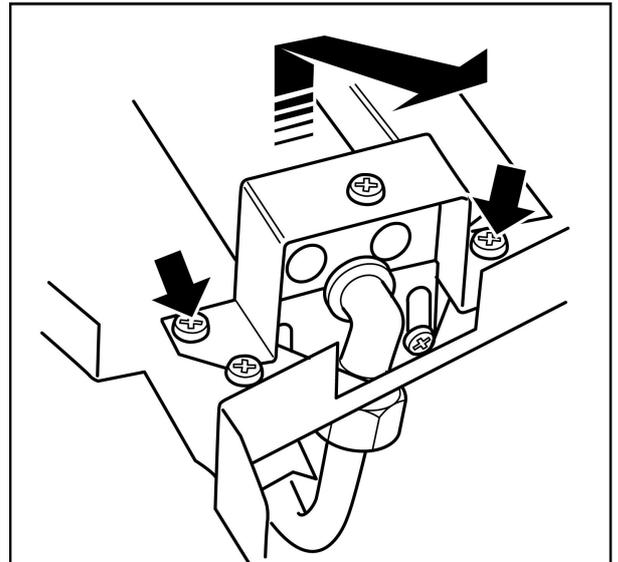

Figure 52. Removal of burner
See figure 52.
3. Remove the two screws from the burner clamping plate (See figure 52)